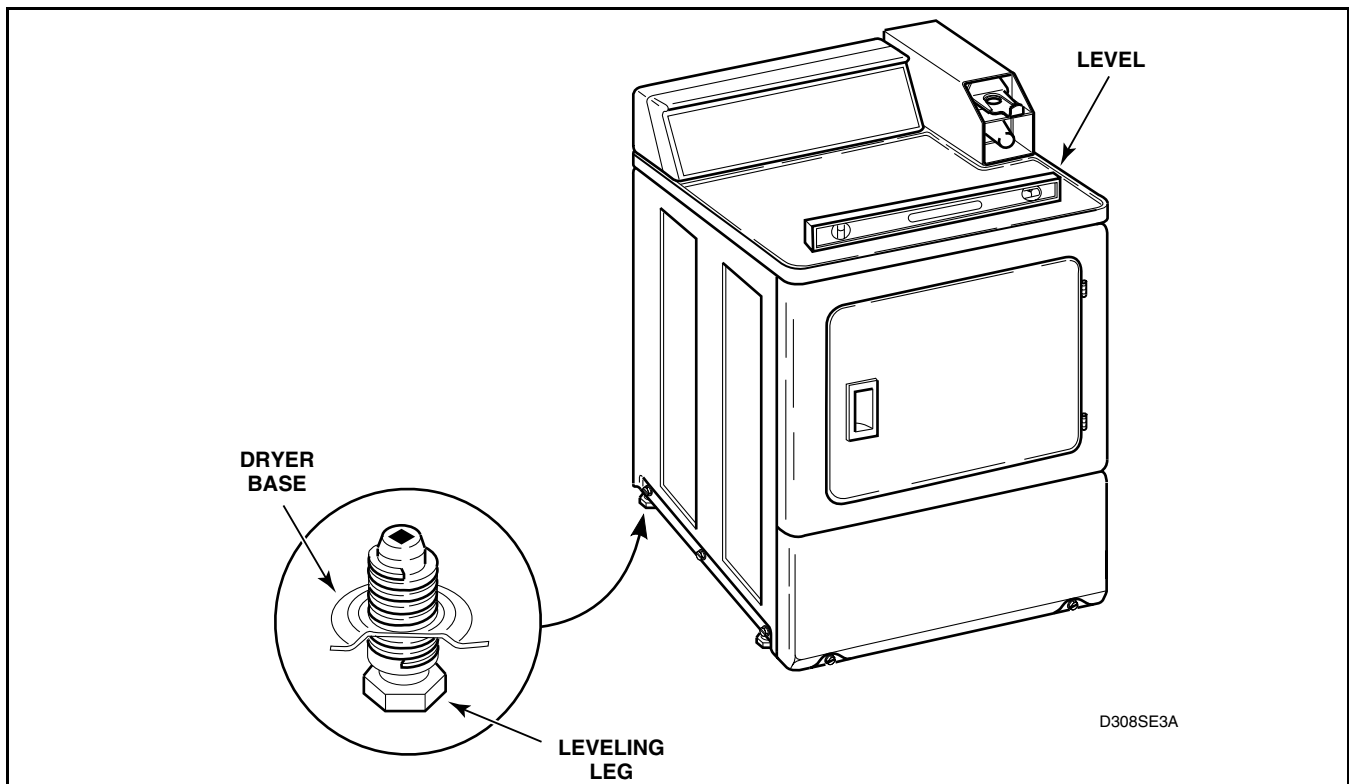

Figure 44
- p. Remove leveling legs from base and reinstall on new base. Refer to *Figure 44*.
Refer to *Figure 44*